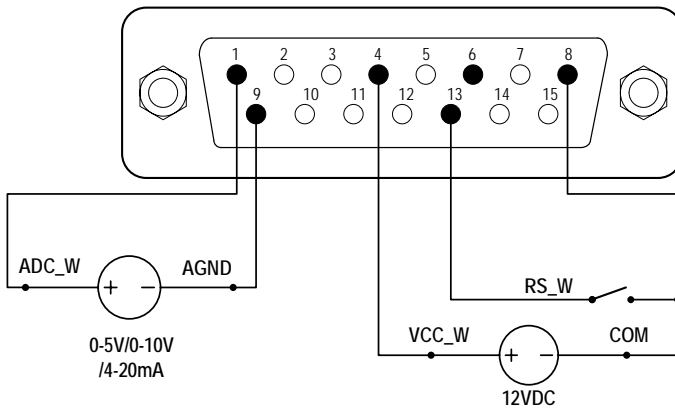
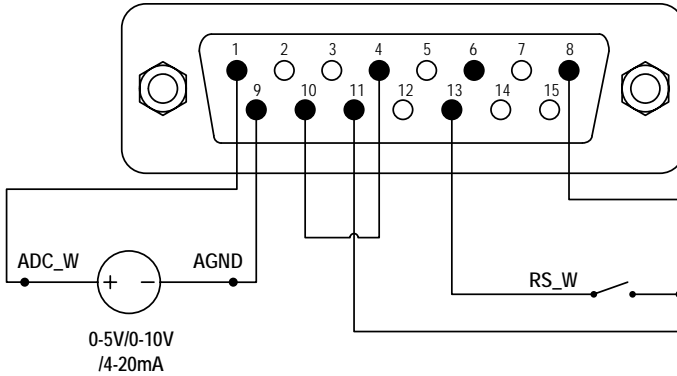

Figure 39. DB15 Wiring with External 12VDC Power Source
Figure 40. DB15 Wiring with Internal 12VDC Power Source
- 1) Power off the device. Wire the DB15 connector as shown in Figure 39 or Figure 40, and connect it to the DB15 port located at the rear of the pump.